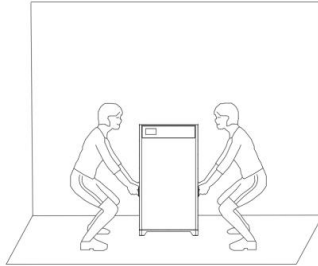

Figure 2-6 Installation Step 1
Step 1: As shown in Figure 2-6, two people with protective gloves should lift the equipment to the wall with power distribution cables, and use a level to measure whether the equipment is level.